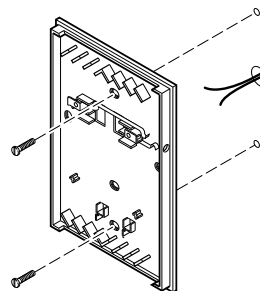

Figure-3 Direct-wall Mounting.
4. Using two appropriate screws (not provided), mount the base plate to the wall (Figure-3).